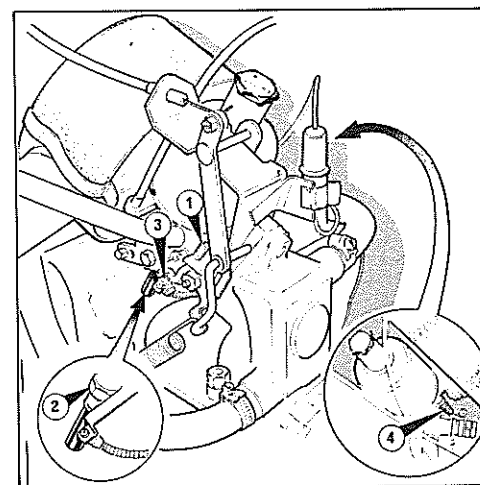

Figure 40 Carburettor adjustment
(Figure 40) in a clockwise direction until the desired idling speed is obtained.
3 Turn the jet adjusting nut (Figure 40) up to weaken or down to enrich the mixture until the fastest idling speed consistent with even running is achieved.
- 2 Lift the piston lifting pin (see Figure 40), approximately 0.8mm (1/32 inch) after the free movement has been taken up and note the engine response.
Pull out the mixture control (choke) about 13mm (½ in.) until the linkage is just about to move the jet. Start the engine and adjust the fast idle screw (see Figure 40) to give an engine speed of approximately 1,000 r.p.m. Push the control fully in and check that there is a small clearance between the end